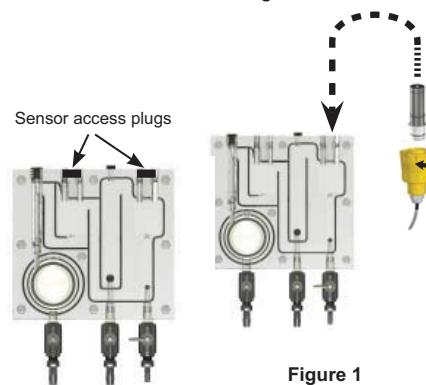

Figure 1
Step 4. Remove sensor access plugs from the flow cell (Figure 1). If the optional pH sensor is *NOT* used, do not remove the left-side plug from the flow cell.